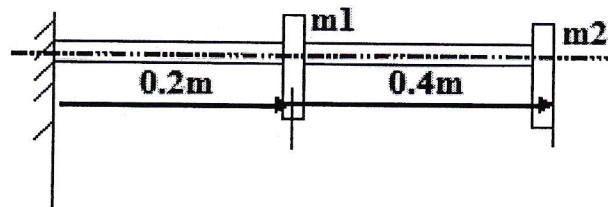

Figure: 3
7. Determine the lowest natural frequencies of a given system shown in figure 3 using Rayleigh's method and Dunkerly's method.